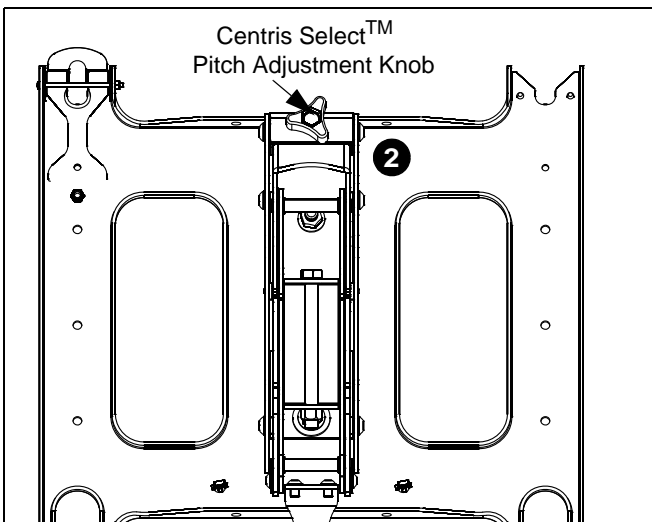

Figure 8
2. If required, adjust the Centris Select™ knob right or left until desired Pitch tension is obtained. (See Figure 8)